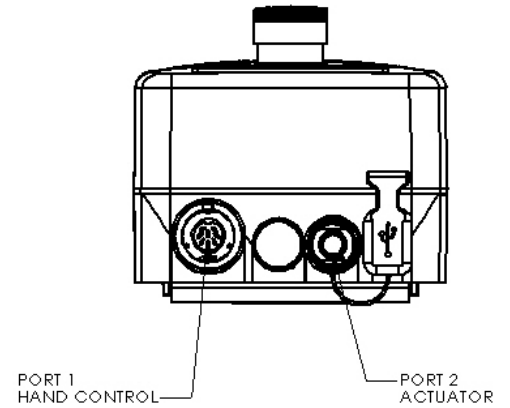

Figure 4. Control Box
8. The LiftOperator Control is pre-assembled on the multiLift (see LiftOperator Owner's Manual for more information). Remove the hand control from accessory carton and unwrap. Insert plug into large socket on the LiftOperator control box as shown in **Figure 4**. Make sure plug is secure.
9. Ensure that the actuator plug is secured in the socket as shown in **Figure 4**.